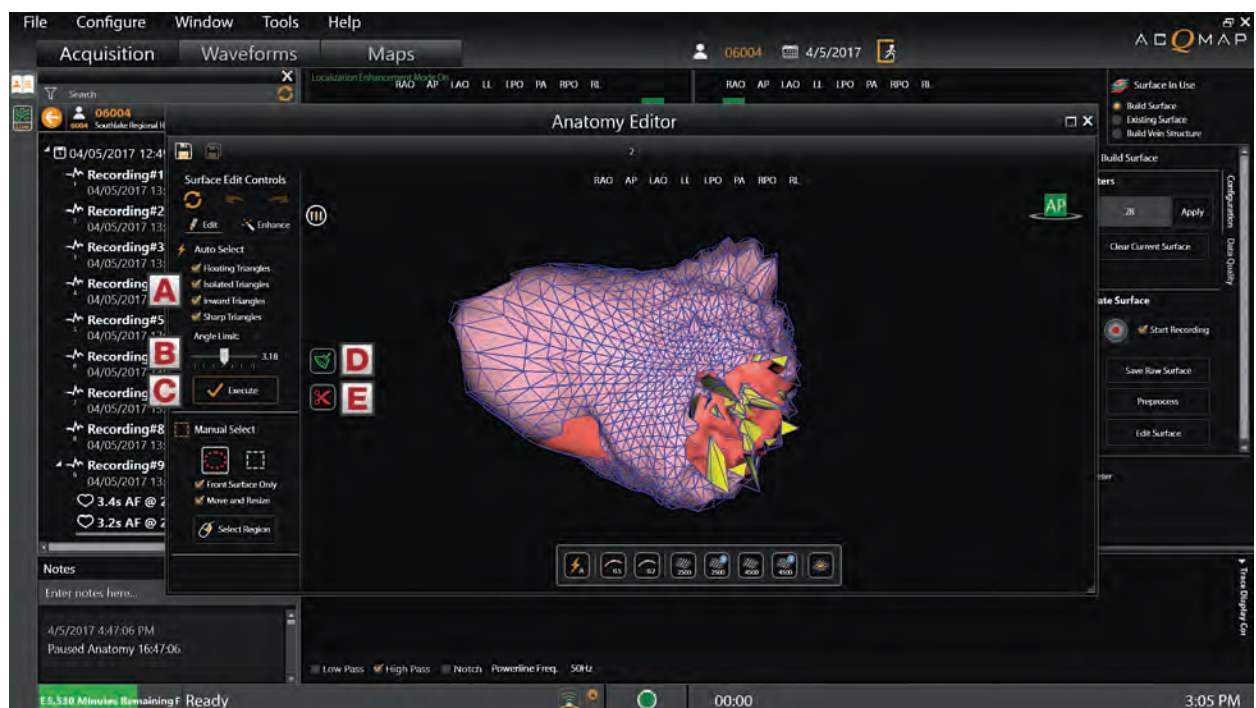

Figure 10-7. A. Auto Select Triangle types to be removed. B. Angle Limit. C. Execute button. D. Clear Selected Faces icon. E. Remove Selected Faces Icon.
Based on a user defined set of parameters, the Auto Select tool will automatically select areas of the surface to be deleted. (Figure 10-7, A) The Auto Select process can be repeated multiple times until the “No more triangles identified” message appears.
- **Floating Triangles** (Figure 10-7, A)
- **Isolated Triangles** (Figure 10-7, A)
- **Inward Triangles** (Figure 10-7, A)
- **Sharp Triangles** (Figure 10-7, A)
- **Angle Limit** (Figure 10-7, B)
Clicking the **Delete** icon or pressing the Delete key on the keyboard will delete the selected points and faces from the display. Clicking the **Clear Selection** button or pressing the Esc key will deselect all the selected triangles. (Figure 10-7, E)